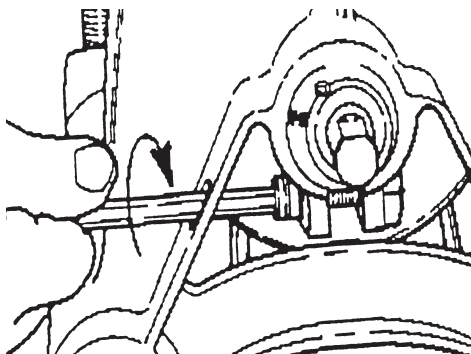

Figure 118
2. To adjust the tension, loosen the Bolt that holds the Idler Shaft Eccentric Bushing in the Headstock Casting, as shown in Figure 118.